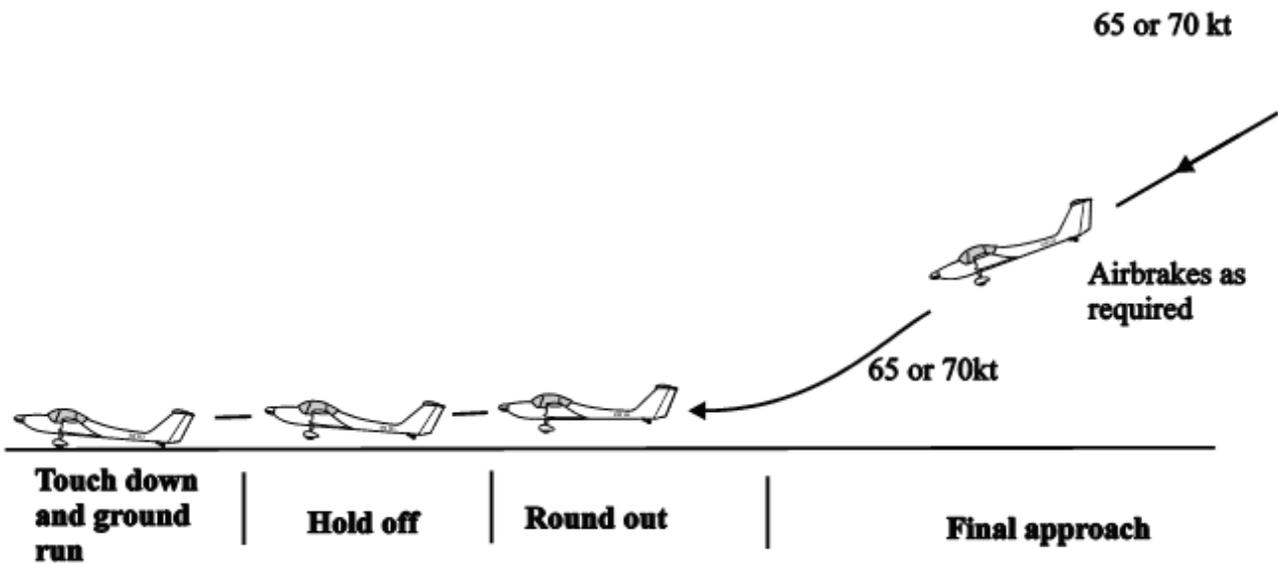

Fig 9. Approach and Landing.
4. **Aiming point.** You will be taught to recognise and use an aiming point (see Fig 9) to control your approach path. In Fig 9a the aiming point is correct, so providing the airspeed is correct, the approach is good. At 9b the aiming point has risen in the canopy showing that the aircraft is undershooting. This may be because you have too much airbrake, the aircraft could be in sinking air, or the nose may be pitched too far down. To recover, ensure the attitude and airspeed are correct, reduce the airbrake setting until the aiming point is in the correct position then use airbrake as required to maintain the correct approach path. In 9c the aiming point is lower than normal in the canopy so the aircraft is overshooting. This may be caused by too little airbrake, the aircraft could be in an area of rising air, or the nose may be pitched too high. To recover, ensure the attitude and airspeed are correct, increase the airbrake setting until the aiming point is in the correct position then use airbrake as required to maintain the correct approach path.